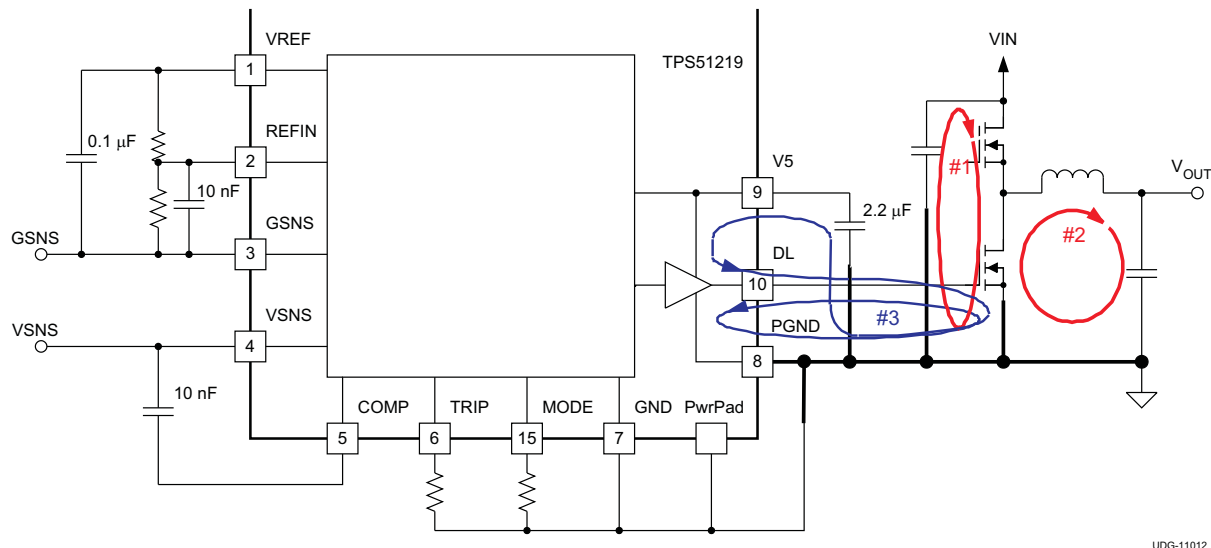

Figure 30. DC/DC Converter Ground System
- Loop #1. The most important loop to minimize the area of is the path from the V_{IN} capacitor(s) through the high and low-side MOSFETs, and back to the capacitor(s) through ground. Connect the negative node of the V_{IN} capacitor(s) and the source of the low-side MOSFET at ground as close as possible. (Refer to loop #1 of Figure 30)
- Loop #2. The second important loop is the path from the low-side MOSFET through inductor and V_{OUT} capacitor(s), and back to source of the low-side MOSFET through ground. Connect source of the low-side MOSFET and negative node of V_{OUT} capacitor(s) at ground as close as possible. (Refer to loop #2 of Figure 30)
- Loop #3. The third important loop is of gate driving system for the low-side MOSFET. To turn on the low-side MOSFET, high current flows from V5 capacitor through gate driver and the low-side MOSFET, and back to negative node of the capacitor through ground. To turn off the low-side MOSFET, high current flows from gate of the low-side MOSFET through the gate driver and PGND, and back to source of the low-side MOSFET through ground. Connect negative node of V5 capacitor, source of the low-side MOSFET and PGND at ground as close as possible. (Refer to loop #3 of Figure 30)